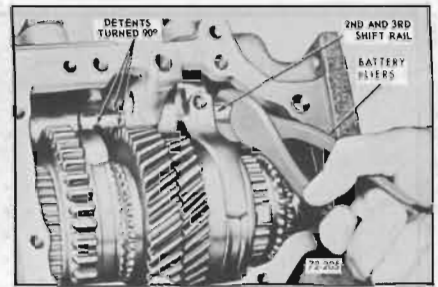

Figure 72-205—Rotating 2nd - 3rd Shift Rail
9. Using battery pliers with jaws padded, rotate second-third shift rail 90°. See Figure 72-205.